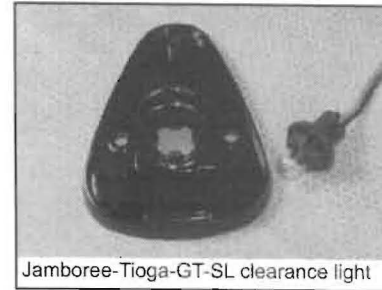

Figure 2
B. **Jamboree, Tioga, Jamboree GT or Tioga SL products:** The light base (shown in Figure 2) will need to be removed to access the clearance light wires. Remove this piece, using care to avoid disconnecting the bulb socket assembly attached to the clearance light wire harness. Retain the light base and original gaskets for reassembly.